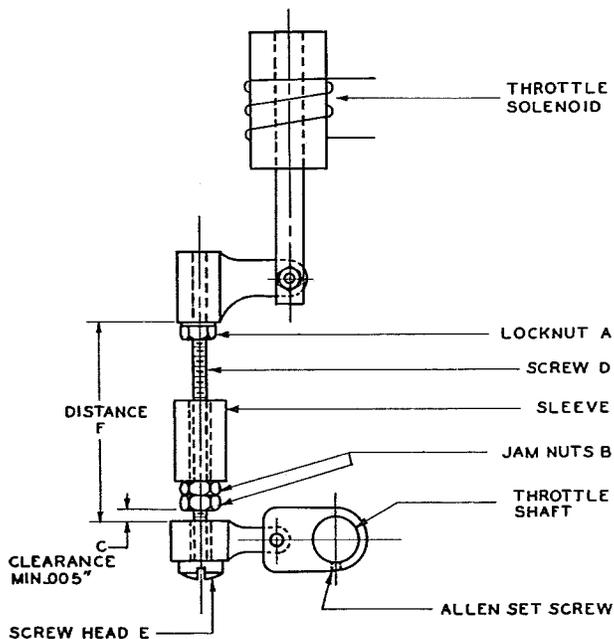

Fig. 4 - Throttle Solenoid Linkage
(2) When it is necessary to make a speed check with a speed indicator, insert it in the end of the alternator shaft. In connection with any speed adjustment, the throttle solenoid linkage (see Fig. 4) on these sets is factory set to a speed range corresponding to that of the speed droop setting on the governor, which is also factory set. In case it is ever found to be different, the speed range of the throttle solenoid linkage can be adjusted as follows:
(a) Referring to Fig. 4, the speed range can be decreased by increasing distance F, or it can be increased by increasing distance F. For example, assume the speed is 1250 rpm at no load and 1190 rpm at full load and it is desired to obtain a speed at 1240 rpm at no load and 1180 rpm at full load. With the engine not running, loosen locknut A and turn screw head E to the left 1/4 of a turn. Then tighten locknut A, restart the set and check the speed. Repeat as necessary to obtain the correct speed.